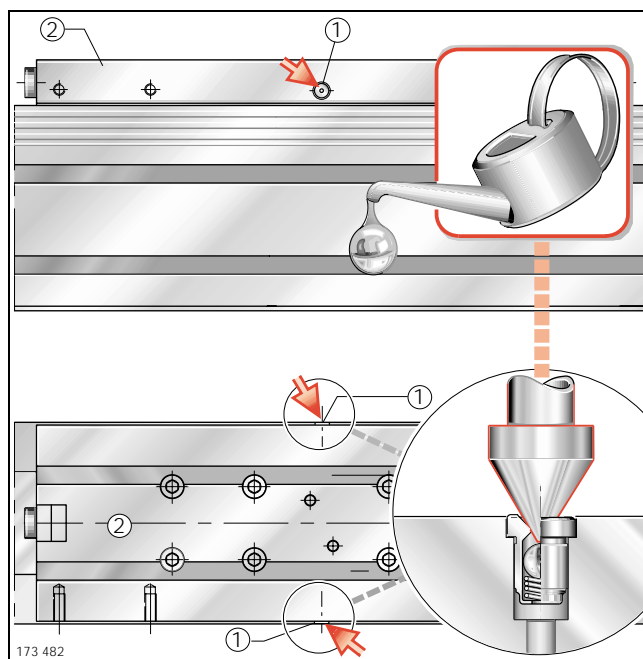

Figure 3 · Lubrication points – MKUVE 20 B ZR
Relubrication should preferably be carried out with several partial quantities at various times instead of the complete quantity at the time of the relubrication interval. Relubrication is carried out via two funnel type lubrication nipples to DIN 3 405-D6 ① on the longitudinal faces of the carriages ② (Figure 3). Relubrication can therefore be carried out from either the left or right side of the carriage.